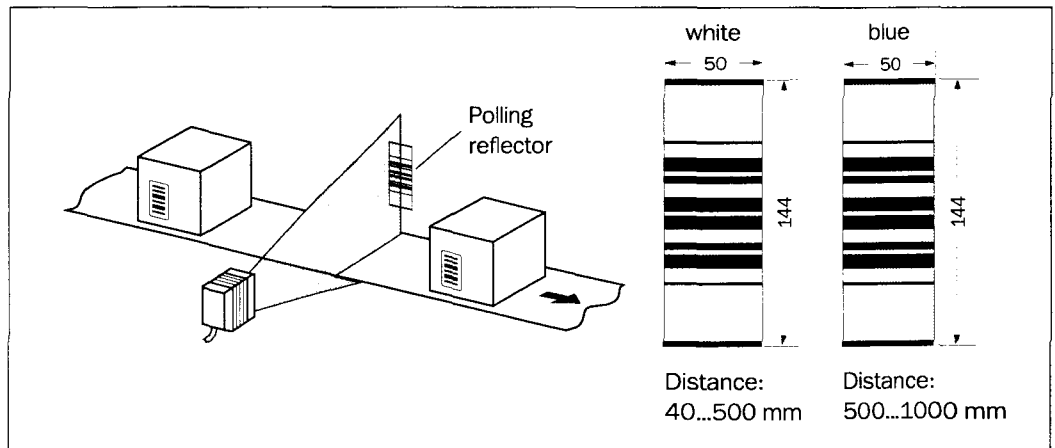

Fig. 13. Mounting the polling reflector
- ▶ Note the maximum ranges of the two reflectors (*Fig. 13*)